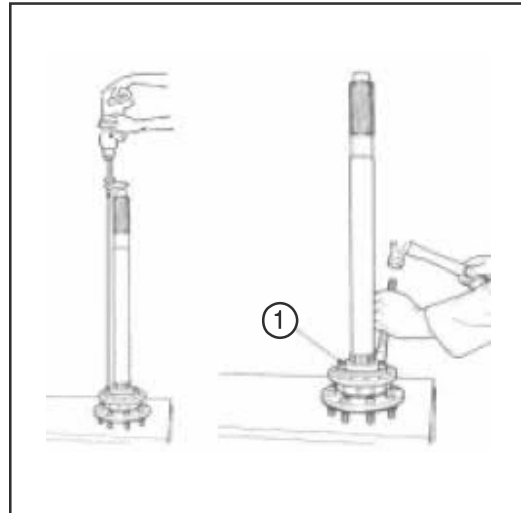

Fig. 4
2. Drill the side of the bearing retaining collar using SER/093, then using a cold chisel, fracture the collar. (Item 1 in Fig 4).